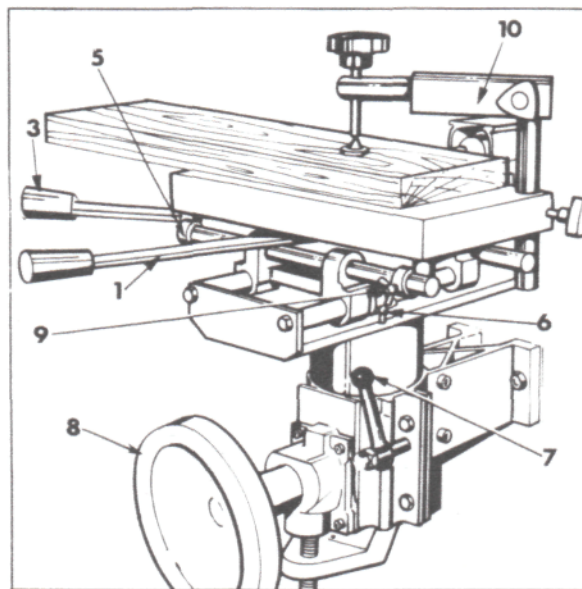

Fig.21
Length of mortice can be set by adjustable length stops (5,9).Depth of mortice should be measured between table carriage and adjustable depth stop (6).when material contacts mortice cutter. See Fig.21
For correct working height the table can be raised or lowered by the handwheel (8) after releasing lock (7). Re-lock when table is correctly positioned. Fig.21
After fixing the size of mortice cutter required securely in the mortice chuck the material should then be positioned on work table and fastened by the clamp screw (10) against the guide. See Fig.21